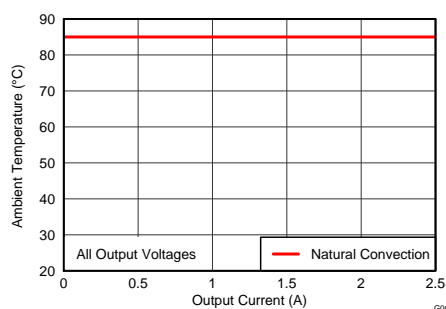

Figure 4. Safe Operating Area
- (2) The temperature derating curves represent the conditions at which internal components are at or below the manufacturer's maximum operating temperatures. Derating limits apply to devices soldered directly to a 100 mm x 100 mm double-sided PCB with 1 oz. copper. Applies to Figure 4.
**TYPICAL CHARACTERISTICS (VIN = 24 V) (1) (2) (3)**